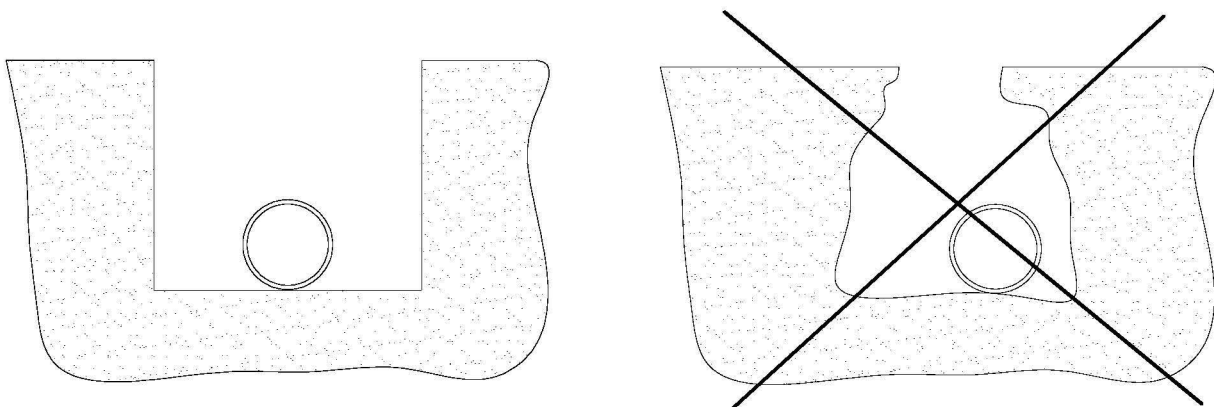

Figure B16 - Correct and incorrect excavations
2. Ensure that the trench is excavated to provide the recommended minimum level of cover. Reduced depth of cover should be authorised by the Operational Manager, recorded on drawings and protected by means of caution tape and PE tiles or a concrete slab. Excavations wherever possible should be of uniform shape. Tunnelling and undercutting should be avoided (Figure B16).